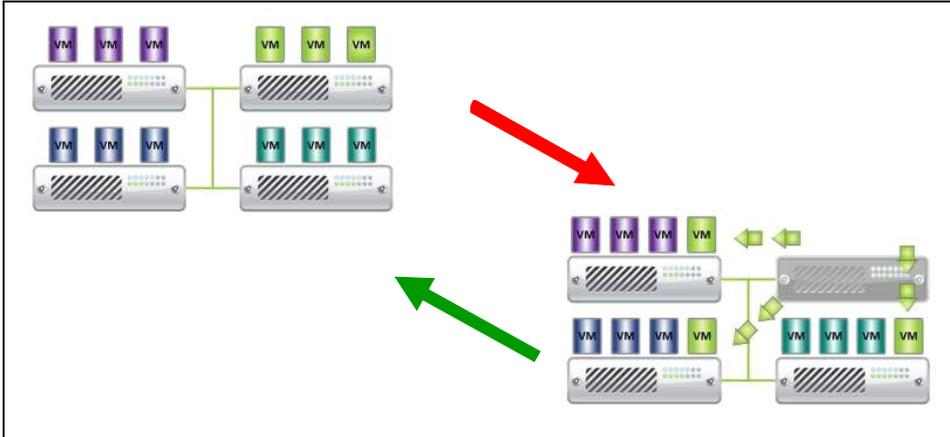

Figure 145. HA Mode with Eaton IPM
- Eaton IPM continues to move the VM from one server to the others, if all servers are powered by different UPSs with different power source (see Figure 145).